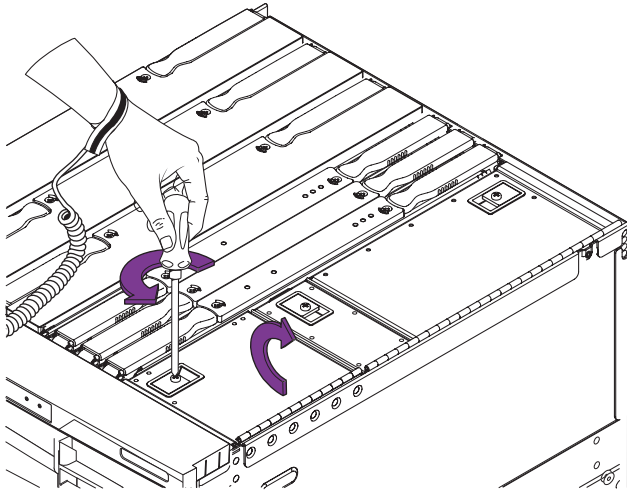
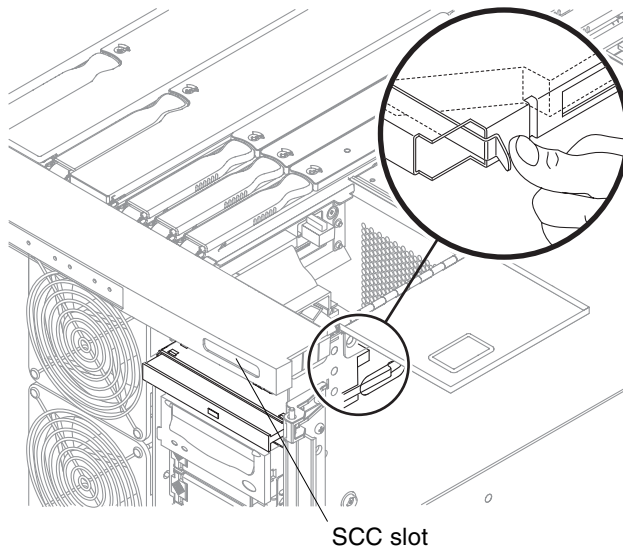

FIGURE 5-16 Opening the Media Bay Access Door—System Top View
FIGURE 5-20 System Configuration Card Slot Location
4. **Open the media bay access door at the top of the system. Loosen the latch securing screw. Lift the latch and raise the cover (FIGURE 5-16).**
2. Open the media bay access door at the top of the system(FIGURE 5-16).
To remove or replace the SCC reader (FIGURE 5-20) you must open the media bay access door at the top of the system (FIGURE 5-16).
This card is the size of a credit card, and is located above the CD-ROM drive (FIGURE 5-20).
8. Open the media bay access door. Loosen the latch securing screw. Release the latch and lift the cover (FIGURE 5-16).
6. **Open the media bay access door. Loosening the latch securing screw. Release the latch and lift the cover (FIGURE 5-16).**